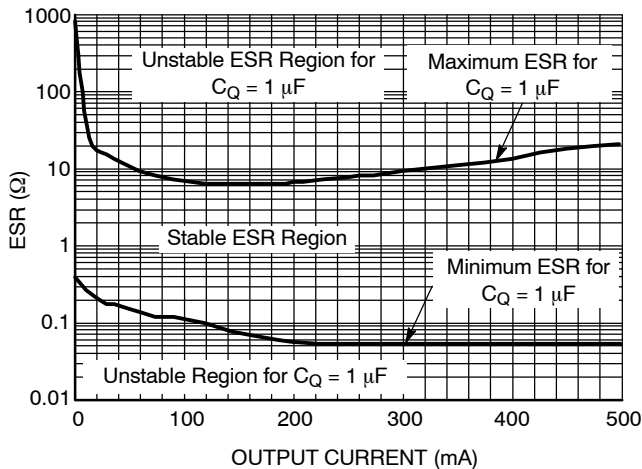
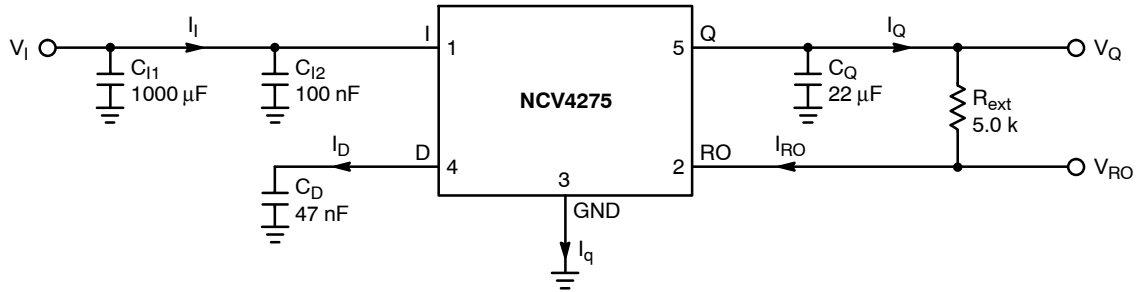

Figure 2. Output Stability with Output Capacitor ESR
Figure 13. Test Circuit
**ELECTRICAL CHARACTERISTICS** ( $V_I = 13.5\text{ V}$ ;  $-40^\circ\text{C} < T_J < 150^\circ\text{C}$ ; unless otherwise noted. Refer to Figure 13 for conditions.)
The NCV4275 is an integrated low dropout regulator that provides 5.0 V, 450 mA protected output and a signal for power on reset. The regulation is provided by a PNP pass transistor controlled by an error amplifier with a bandgap reference, which gives it the lowest possible drop out voltage and best possible temperature stability. The output current capability is 450 mA, and the base drive quiescent current is controlled to prevent over saturation when the input voltage is low or when the output is overloaded. The regulator is protected by both current limit and thermal shutdown. Thermal shutdown occurs above 150°C to protect the IC during overloads and extreme ambient temperatures. The delay time for the reset output is adjustable by selection of the timing capacitor. See Figure 13, Test Circuit, for circuit element nomenclature illustration.
The value for the output capacitor CQ shown in Figure 13, Test Circuit, should work for most applications; however, it is not necessarily the optimized solution. Stability is guaranteed for CQ ≥ 22 μF and an ESR ≤ 5.0 Ω. The range of stability versus capacitance, load current and capacitive ESR is illustrated in Figure 2.